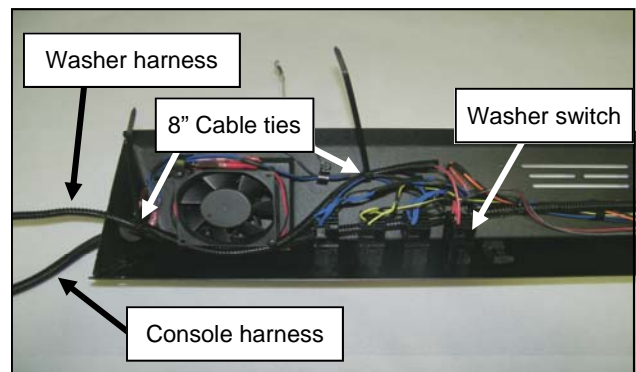

Fig. 3.2
- 3.2 Install the Windshield Washer harness onto the switch and route wire loom covered leg of the harness to the left of the console. Attach the Washer harness to the main console harness with 8" cable ties. See figure 3.2.